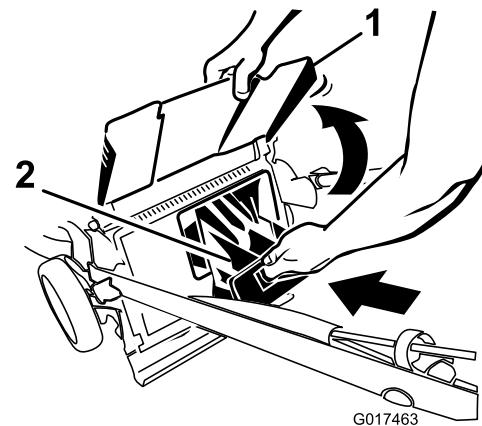

Figure 25
**Important:** Ensure that the rear-discharge plug is locked in place. To lock the plug: Raise the discharge deflector (Figure 25), firmly push the plug in until it snaps into place behind the tabs, and rotate the lever on the plug to the left (Figure 24).